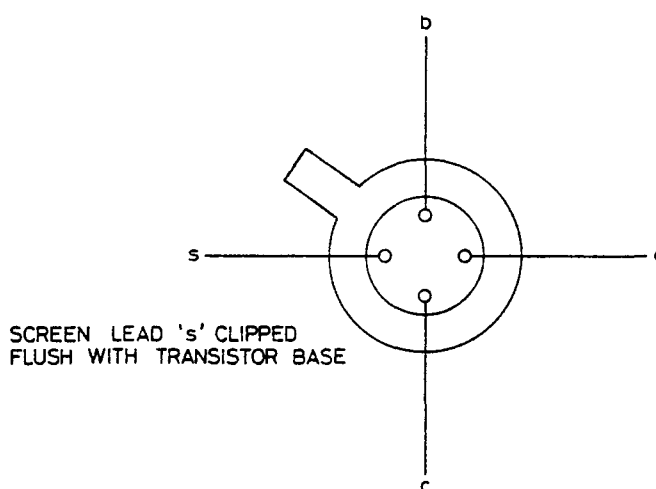

Fig 1
- (1) Red to emitter termination
- (2) Green to base termination
- (3) White to collector termination (See Fig 1)